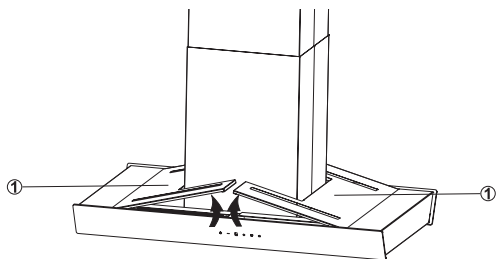

Figure 12: Replacing the Top Lamp Group
Lift up and remove the lamp group cover sheet (1). Figure 12
Install the new LED lamp following this procedure in reverse order and install the top lamp group cover sheet. Figure 12